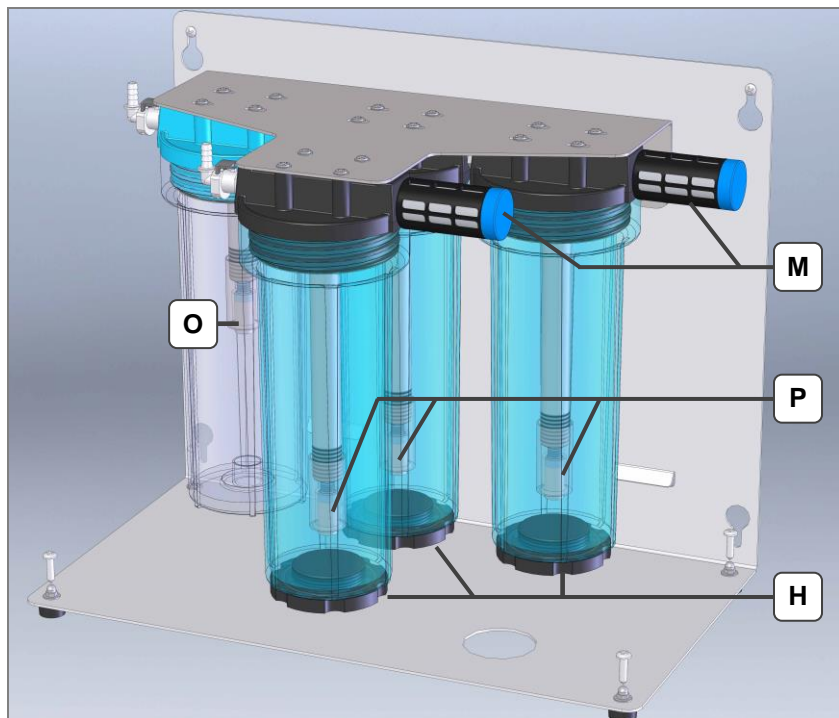

Fig. 14.3.3.1 Sectional view of activated carbon filter
**Changing outer PE filter** Unscrew the outer PE filter (Fig. 14.3.3.1.M) anticlockwise from the activated carbon cartridge.
Unscrew the used PE filter (Fig. 14.3.3.1.O) anticlockwise from the mounting thread.
Unscrew the used PE filter (Fig. 14.3.3.1.P) anticlockwise from the mounting thread.
Open the screw plug (Fig. 14.3.3.1.H) of the activated carbon cartridge and fill the required quantity of new activated carbon granulate using the funnel.